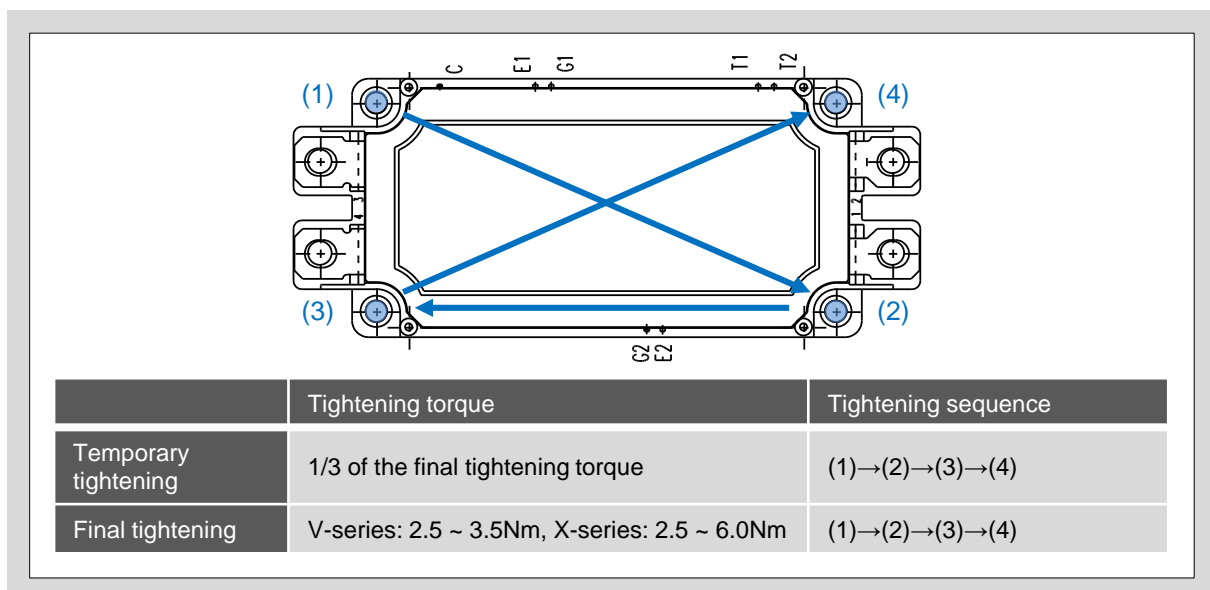

Figure 3. Tightening torque and tightening sequence
2. To fix the module with even force, first perform temporary tightening with 1/3 of the final tightening torque. Figure 3 shows the tightening sequence.